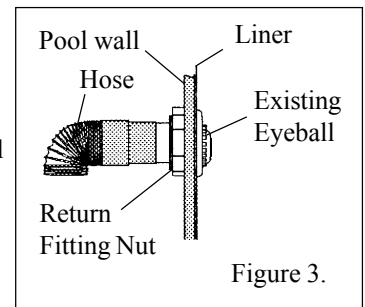

Figure 3.
4. Remove the existing eyeball fitting from the return fitting on your pool wall, see Figure 3.